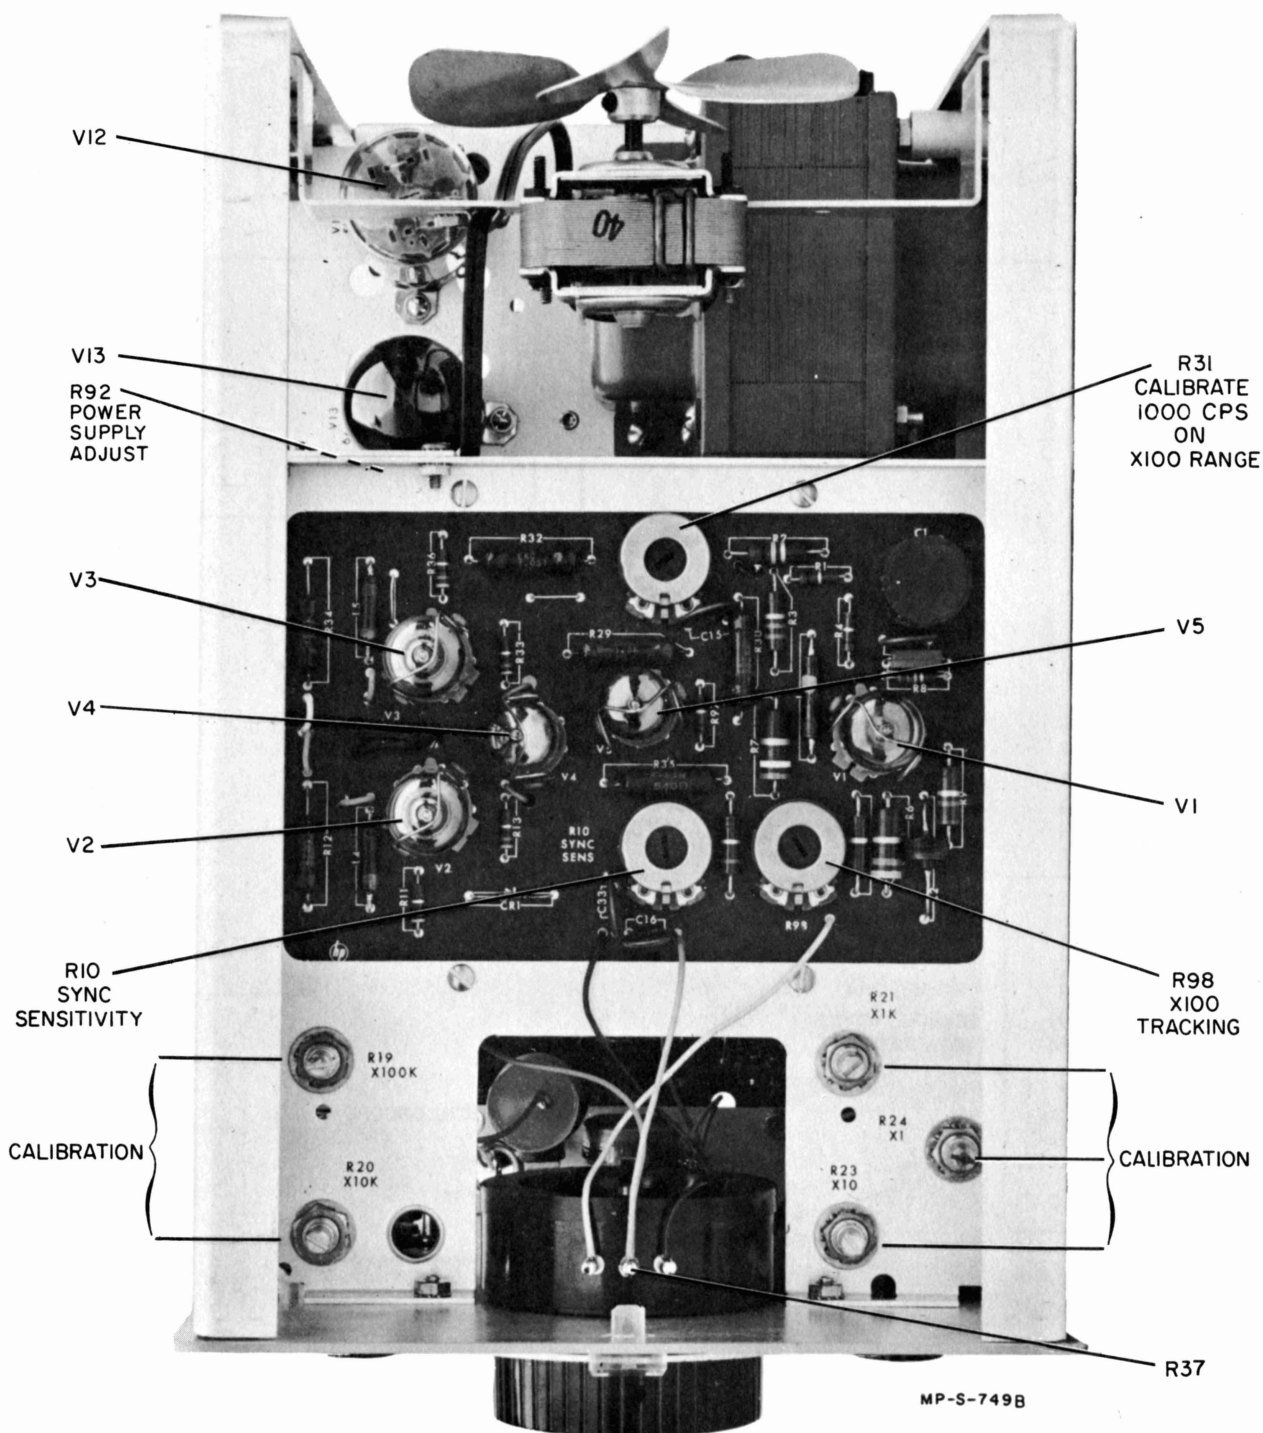

Figure 4-2. Model 211A Top View
4-17. To measure power supply voltage, connect a dc voltmeter with  $\pm 1\%$  calibrated accuracy between the end terminal of R10 (shown in figure 4-2) and the chassis. The voltage should be between -192 and -200 volts. This voltage must be set to the point where regulation is obtained under high (115 volts  $+10\%$ ) and low (115 volts  $-10\%$ ) line conditions. A value of -195 volts is average for most instruments.
c. Adjust R31, shown in figure 4-2, to obtain 1000 cps from the Model 211A on the counter, or a zero beat Lissajous pattern on the scope.